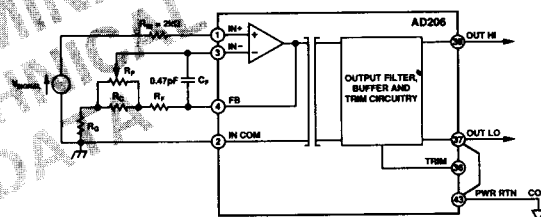

Figure 15. Input Gain Adjustment Circuit for the
**Input Gain Adjustments for the Noninverting Mode of Operation.** Figure 15 shows the suggested gain adjustment circuit. Note that the gain adjustment potentiometer  $R_P$  is incorporated into the gain-setting resistor network at the isolator's input.